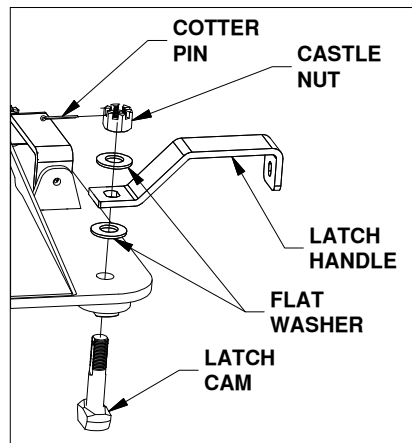

**FIGURE C2:**
- 2. Prepare to adjust latch tension.** Once the base is in place, remove the cotter pins from each of the four castle nuts. Engage the cams with each attachment point by turning the latch handles back to their latched position, see Figure C2. If a handle will not turn easily, loosen the castle nut until the cam will freely turn and engage the attachment point.